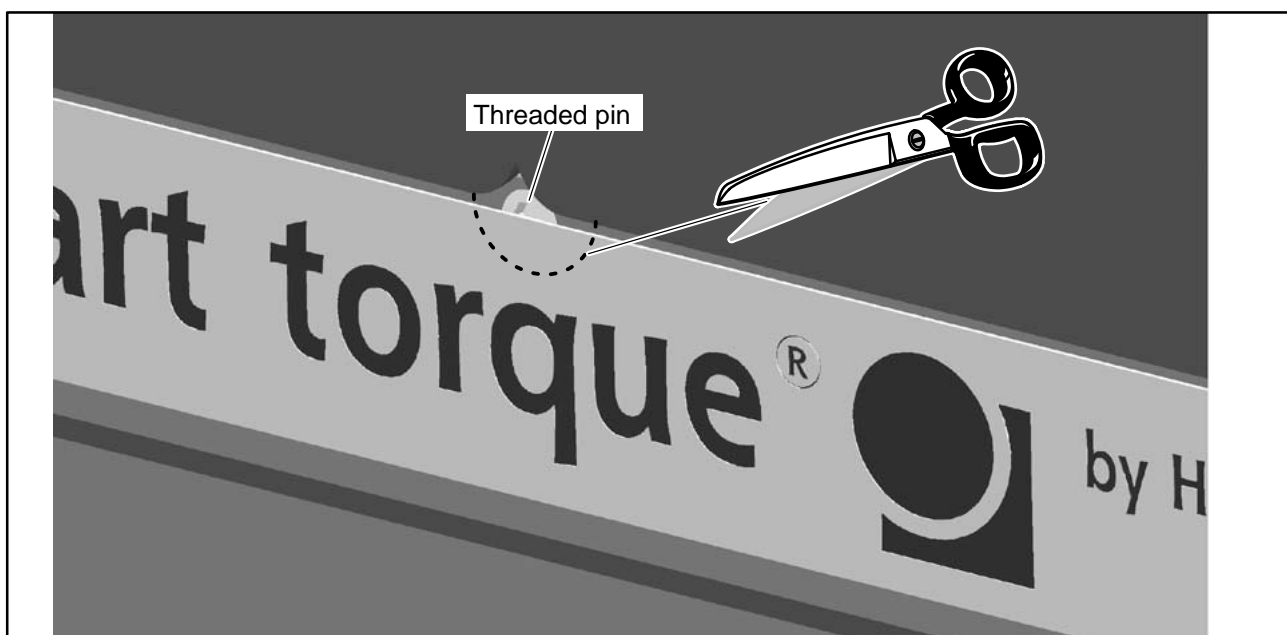

Fig. 6.5: Cut out the film
2. **For 500 N · m – 3 kN · m measuring ranges and retrospective protection against contact orders only:** The tapped holes for the stop screws are partly covered by the attached film. Make a semicircular cutout in the film here, at least 6 mm in radius (see Fig. 6.5).